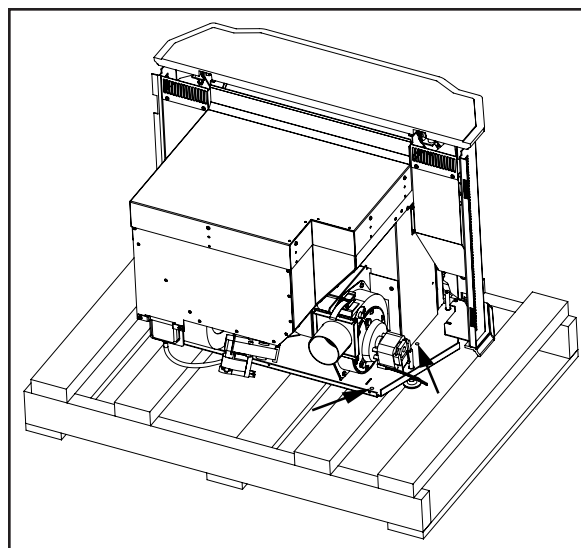

Figure 4: Removing Stove From the Pallet.
Use a flathead screwdriver or $\frac{5}{16}$ " socket to remove the four (4) screws that secure the Milan to the pallet. Two (2) of the screws are shown in Figure 4 and the other two (2) are in the same location but on the opposite side; behind the circuit board and beside the power cord.